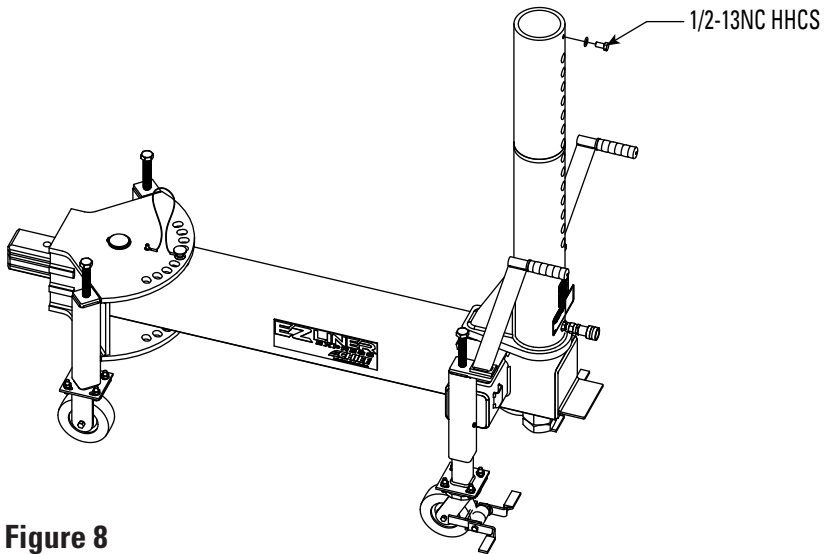

Figure 8
5. Reinstall the 1/2-13NC HHCS and 1/2" washer into the top of the Tower Pipe (see Figure 8).